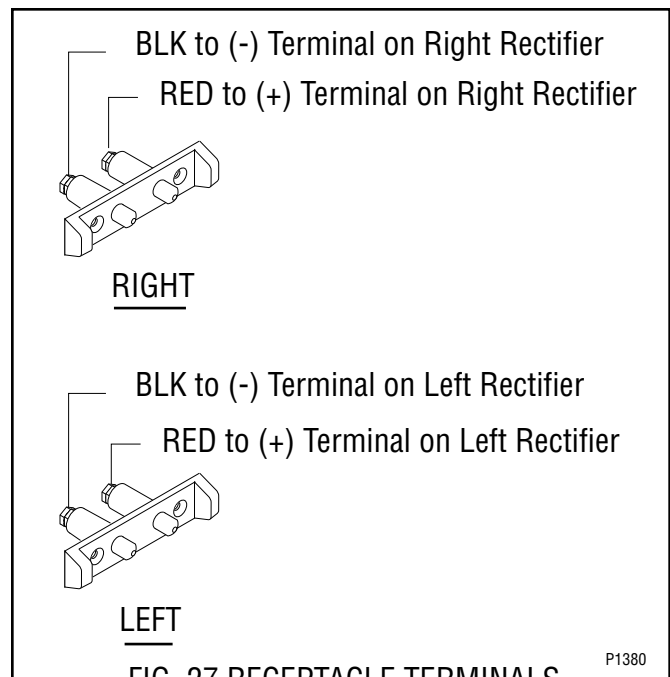

FIG. 27 RECEPTACLE TERMINALS
6. Refer to Fig. 27 and reconnect the wires.